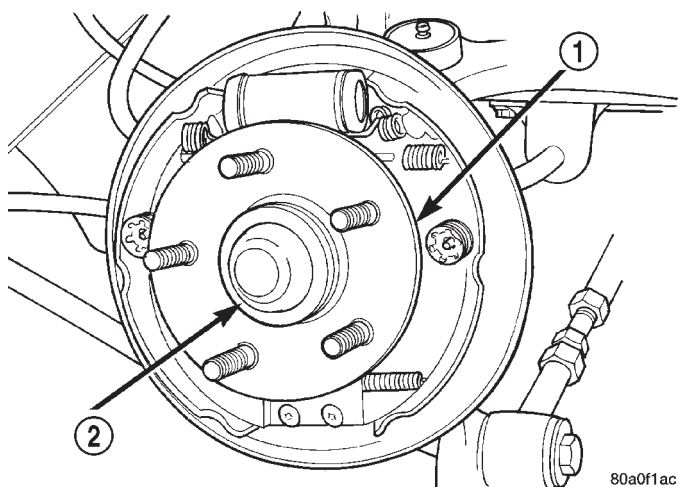

Fig. 118 Hub And Bearing Dust Cap
(1) Raise vehicle on jackstands or centered on a hoist. See Hoisting in the Lubrication and Maintenance section of this manual.
(2) Remove rear tire and wheel assembly from vehicle.
(3) Remove the dust cap from the rear hub and bearing assembly (Fig. 118).